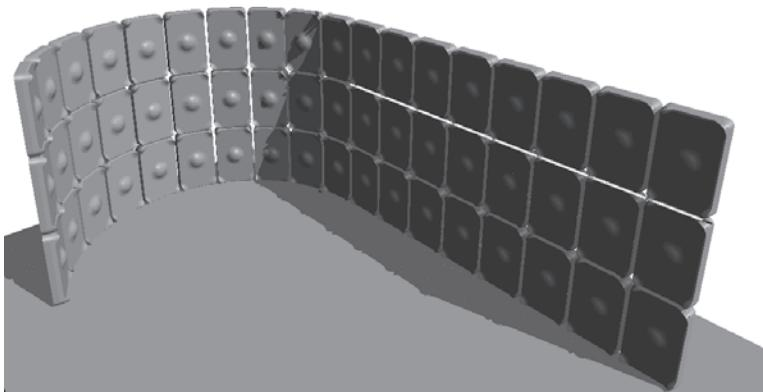

Figure 6.33
**Solid panels and panels with wall types** These panels can take on any geometry you wish, allowing the creation of interesting structures like the one shown in Figure 6.33.